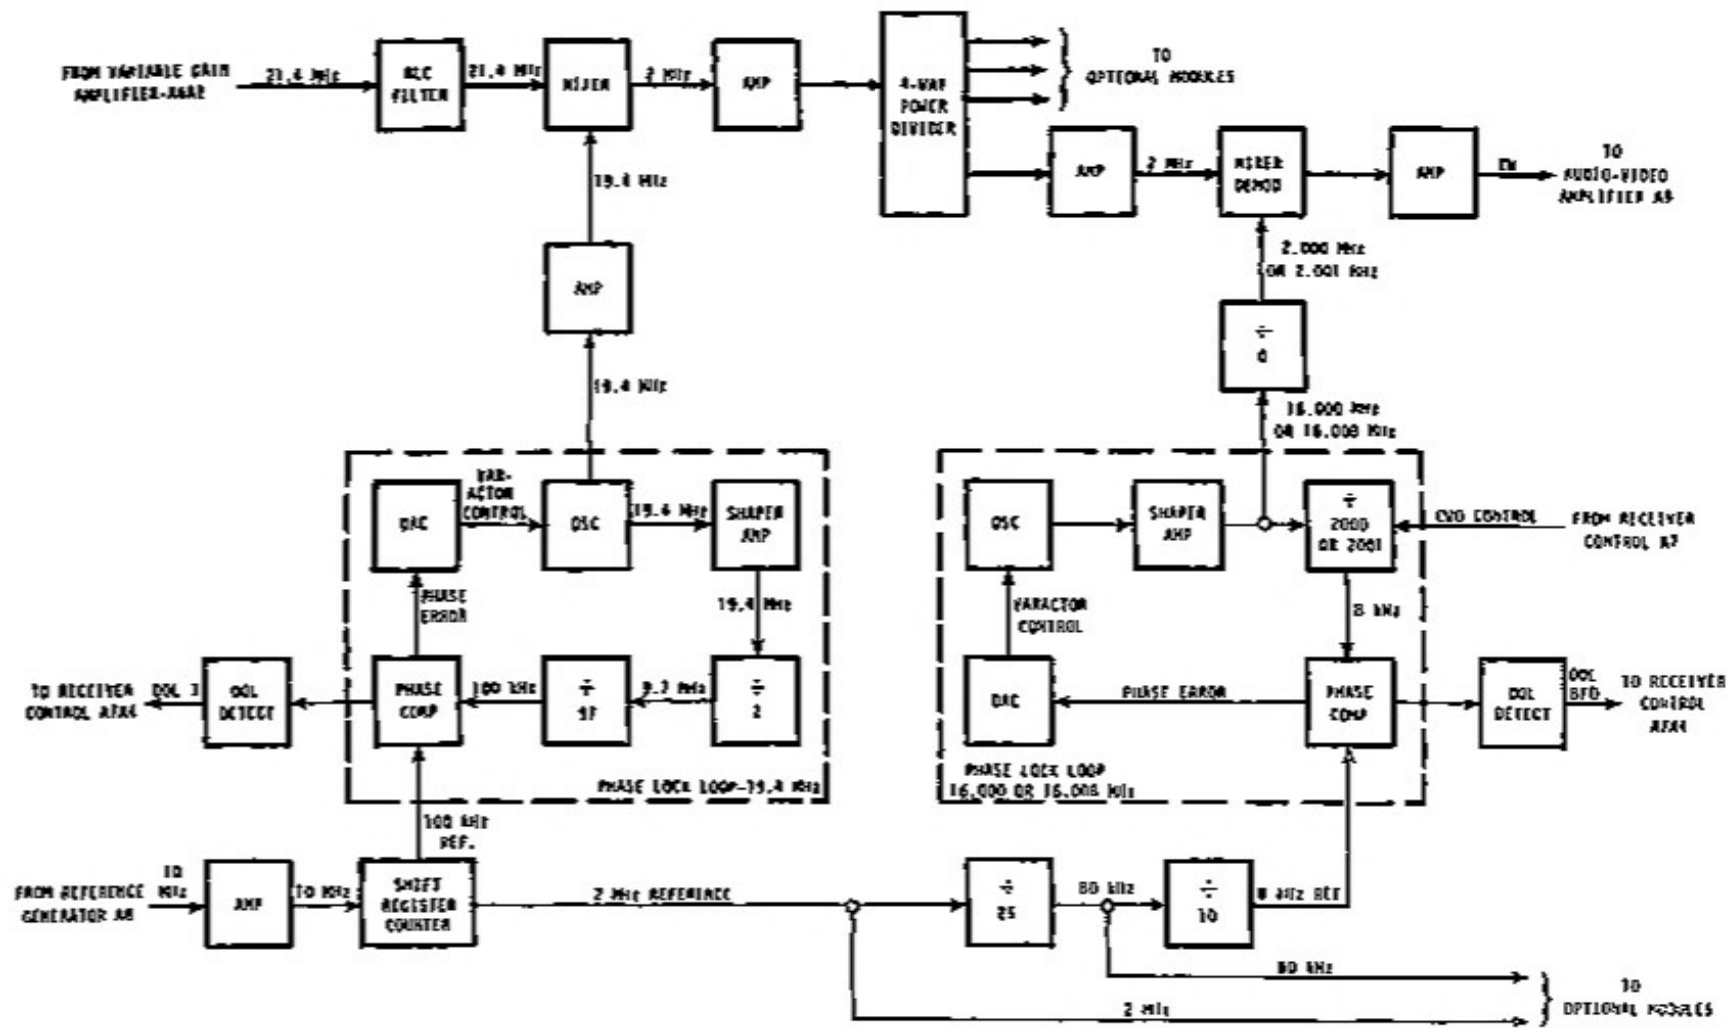

Figure 4-10. CW Demodulator (A6A8) Functional Block Diagram
4-39. CW Demodulator (A6A8). Figure 4-10 shows a functional block diagram of the CW demodulator. The CW demodulator provides a demodulated continuous wave (CW) output with zero beat (CWO mode), or an output with a 1 kHz offset from zero beat (CW 1 kHz mode). In addition, the CW demodulator generates a 2 MHz and 80 kHz reference frequency from the 10 MHz reference for use on an optional upper sideband (USB), lower sideband (LSB), 10 kHz converter circuit card assemblies (A6A7, A6A9, and A6A10 respectively). The 21.4 MHz input to the CW demodulator is mixed with a 19.4 MHz signal from a phase-locked voltage-controlled oscillator. The 2 MHz difference frequency from this mixer is routed through a four way power divider to outputs for the optional circuits previously described, and to a second mixer contained on the CW demodulator. The second input to this mixer is from a phase locked oscillator (controlled by CW offset data from receiver control) that is either 2.000 MHz or 2.001 MHz. This then results in the CW signal without offset or with 1 kHz offset.